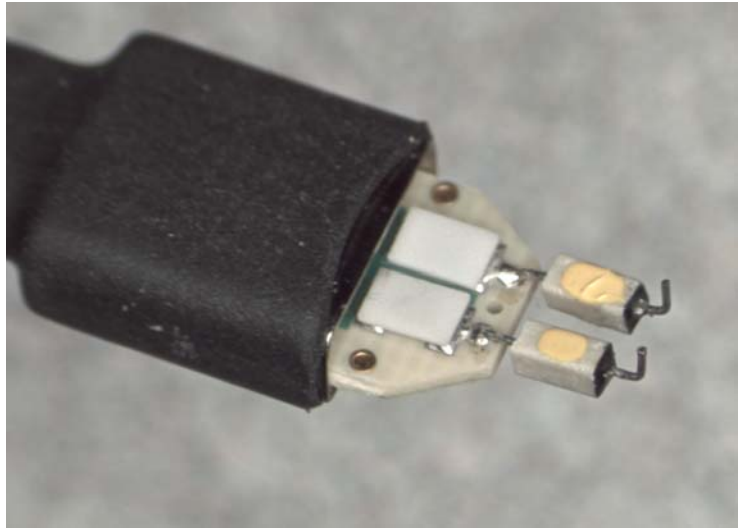

Figure 79 N2836A ZIF Probe Head
- 2 Prepare the N2836A solder-in probe head for connection to the PV fixture as shown in Figure 79 on page 122. Shape the leads as shown. If needed, slightly spread the tips wires to better match the spacing needed for the PV fixture.